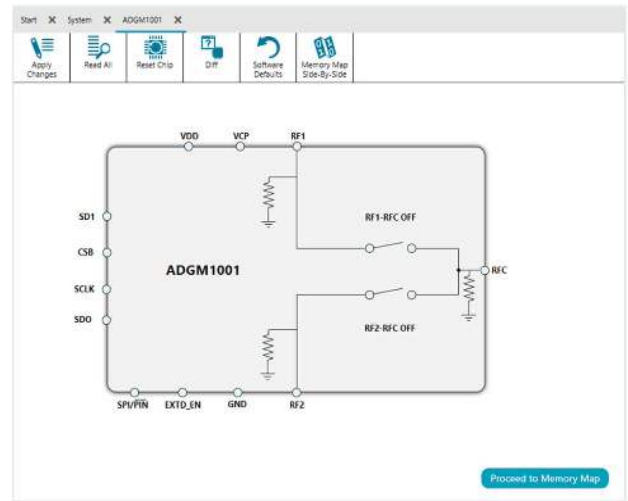
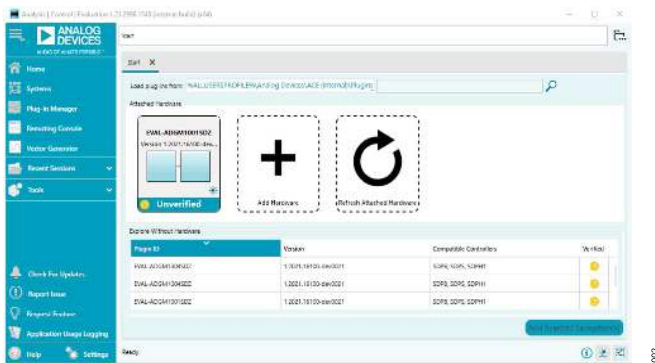

Figure 4. Chip Block Diagram View for the ADGM1001
Figure 2. EVAL-ADGM1001SDZ Plugin Start-Up Window
6. Run the ACE software. The EVAL-ADGM1001SDZ board plugins appear in the attached hardware section of the **Start** tab (see Figure 2).
8. The chip block diagram can be accessed by double-clicking on the ADGM1001 chip (see Figure 2). This view provides a basic representation of functionality of the board. The main functions are labeled in Figure 4.